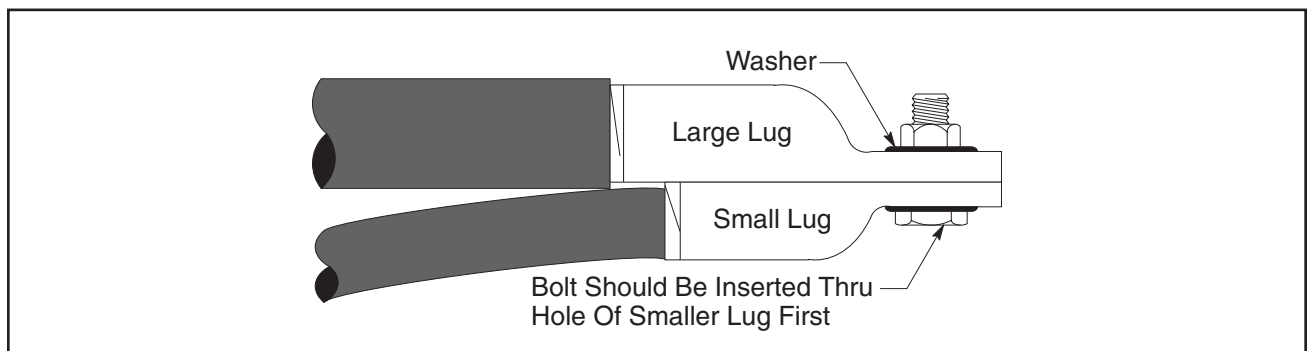

Figure 2
- 2.4 Bolt lugs together. See *Table 1* for maximum bolt length. See *Figure 2* for proper bolt/lug arrangement.